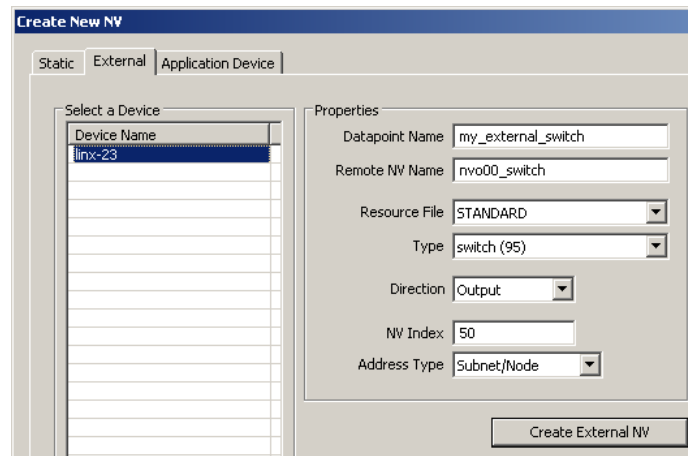

Figure 150: Create a new external NV.
3. Click on the tab **External** as shown in Figure 150.